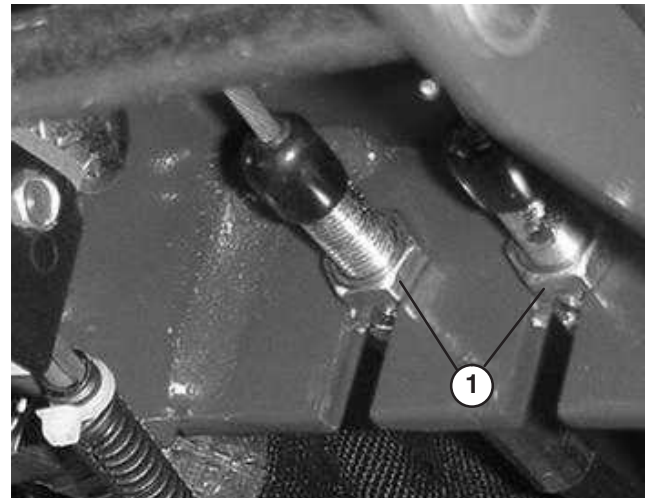

Figure 57
1. To reduce free travel of turn pedals—tighten the brakes—loosen front nut on threaded end of brake cable (Fig. 57). Then tighten rear nut to move cable backward until turn pedals have 1/2 to 1 in. (13 to 25 mm) of free travel. Tighten front nut after brakes are adjusted correctly.